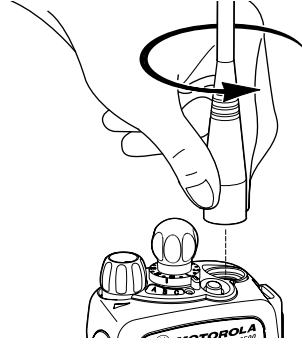

Figure 16. Removing the Antenna
3. Remove the antenna (see Figure 16 on page 42).